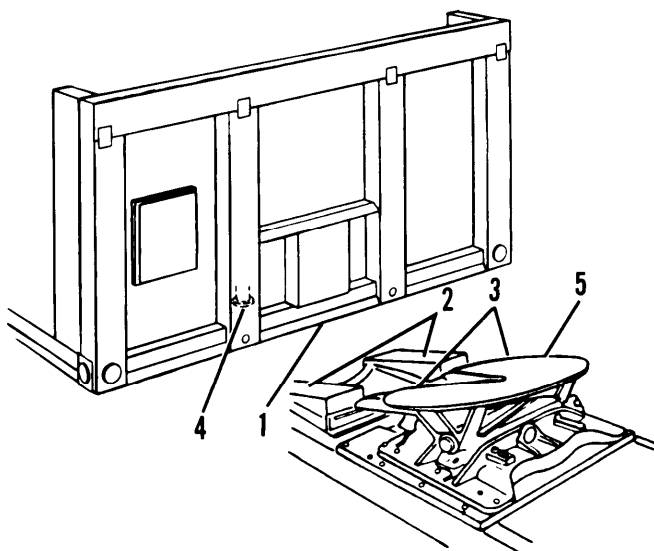

Figure 2-16. Completing Coupling Semitrailer to Towing Vehicle
- (1) Before kingpin plate (1, fig. 2-16) starts to ride approach ramps (2), check that the kingpin plate (1) is above approach ramps (2). Adjust height as needed by using landing gear. Make sure towing vehicle fifth wheel coupler jaws (3) are open.
- (2) Slowly back the towing vehicle until coupler jaws (3) engage the kingpin (4).